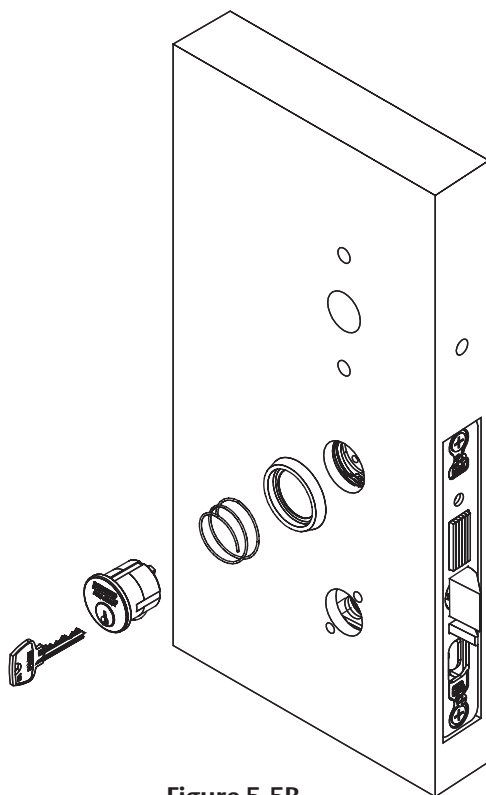

Figure 5-5B
1. Slide cylinder through collar. Thread cylinder into lockbody. (Figure 5-5B)
3. Insert key 75% of the way and utilize the key to rotate the cylinder into the rest of the cylinder hole.